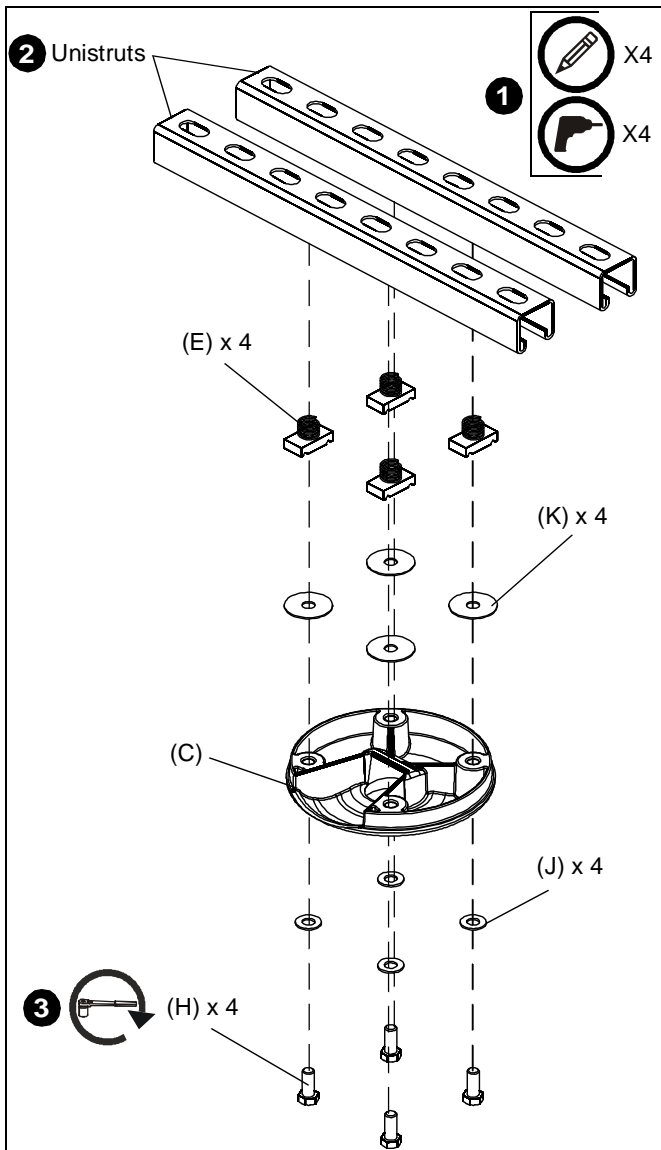

Figure 1
2. Attach the unistruts (if required) to the structure using four 5/16-18 x 2-1/2" lag bolts (F) and four 5/16" washers (G).
3. Attach the CMS115 (C) to the unistruts following the included instructions, EXCEPT using four unistrut nuts with springs (E), four 3/8" fender washers (K), four 3/8" flat washers (J), and four 3/8" x 1" hex head bolts (H). (See Figure 1)